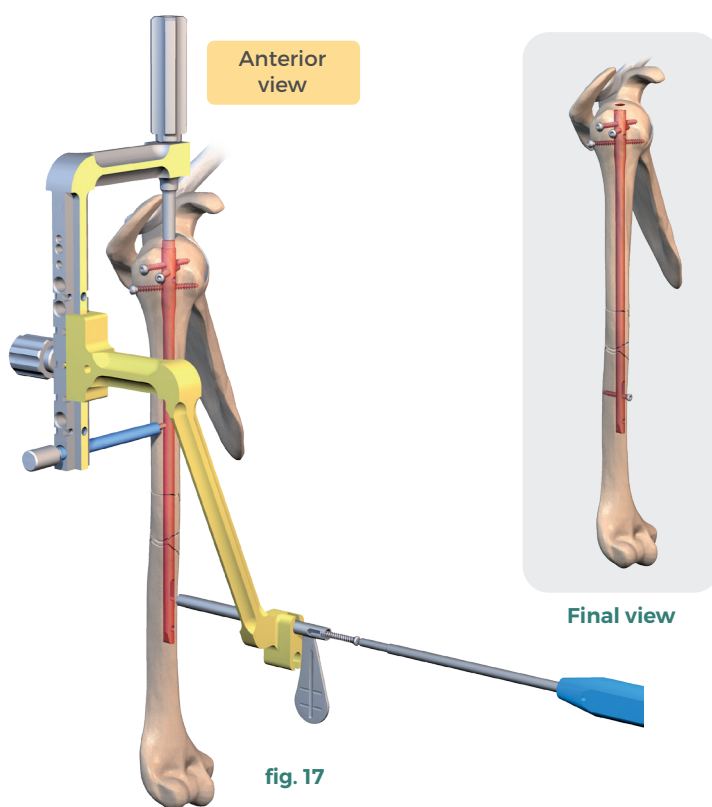

fig. 17
· Remove the blunt tip drill guide sleeve (ref. 270 822) and fit the distal screw using the 2.5 mm screwdriver (ref. 233 339) (fig.17).